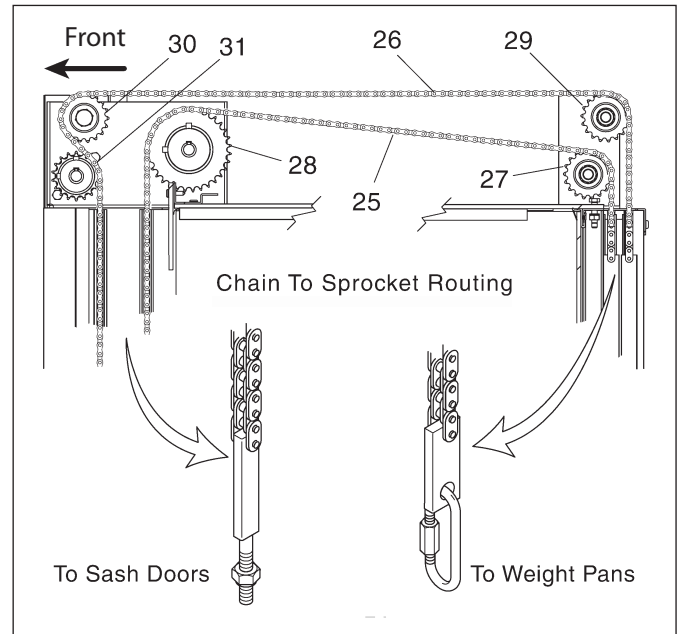
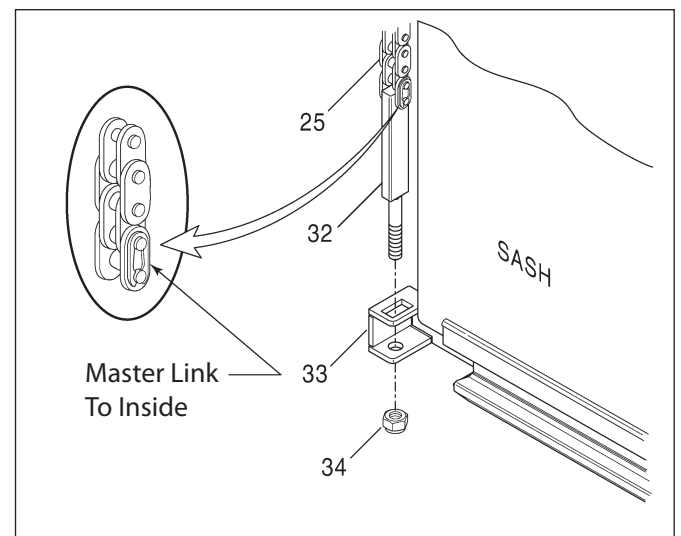

Figure 21
Figure 22
**Refer to Figure 21**
6. The rear/upper sash door chain must be installed first. Locate one of the short chains (25) and check for proper orientation. Make sure the master link for the sash doors is to the inside. (See Figure 22)
7. Thread the chain over the rear lower sprocket (27). Continue threading the chain over the large sprocket (28) at the front of the unit.
9. Attach the front lower chain assembly (25) to the sash by inserting the threaded end of the chain assembly (32) into the lower sash mount (33). Secure using a 1/4" Ny-Lock nut (34).
**Refer to Figure 22**
11. Locate the remaining longer chain (26). Make sure it is properly oriented. Ensure the master link for the sash doors is positioned to the inside.
12. Thread the chain over the rear upper sprocket (29). Continue threading the chain over the upper front idler sprocket (30) and down behind the lower sprocket (31). Repeat for opposite side.
13. In a similar manner, repeat Steps 9 and 10 to attach the chain (26) to the front lower sash mounts. (See Figure 22)